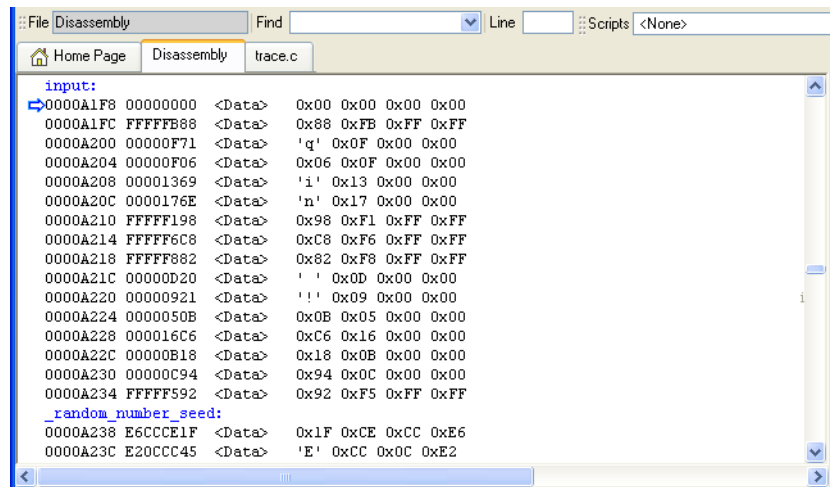

Figure 10-61 Disassembly view of the input[] array
- f. Click **OK**. The dialog box closes, and the disassembly view changes to show the disassembly from the address 0xA1F8. Figure 10-61 on page 10-59 shows an example: